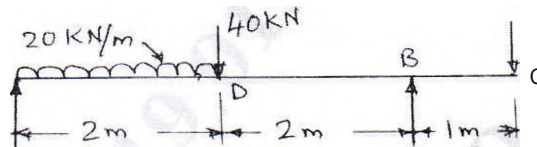

Fig.Q5(b)
b. Draw SFD and BMD for the overhang beam shown in Fig.Q5(b). Indicate all the significant values.